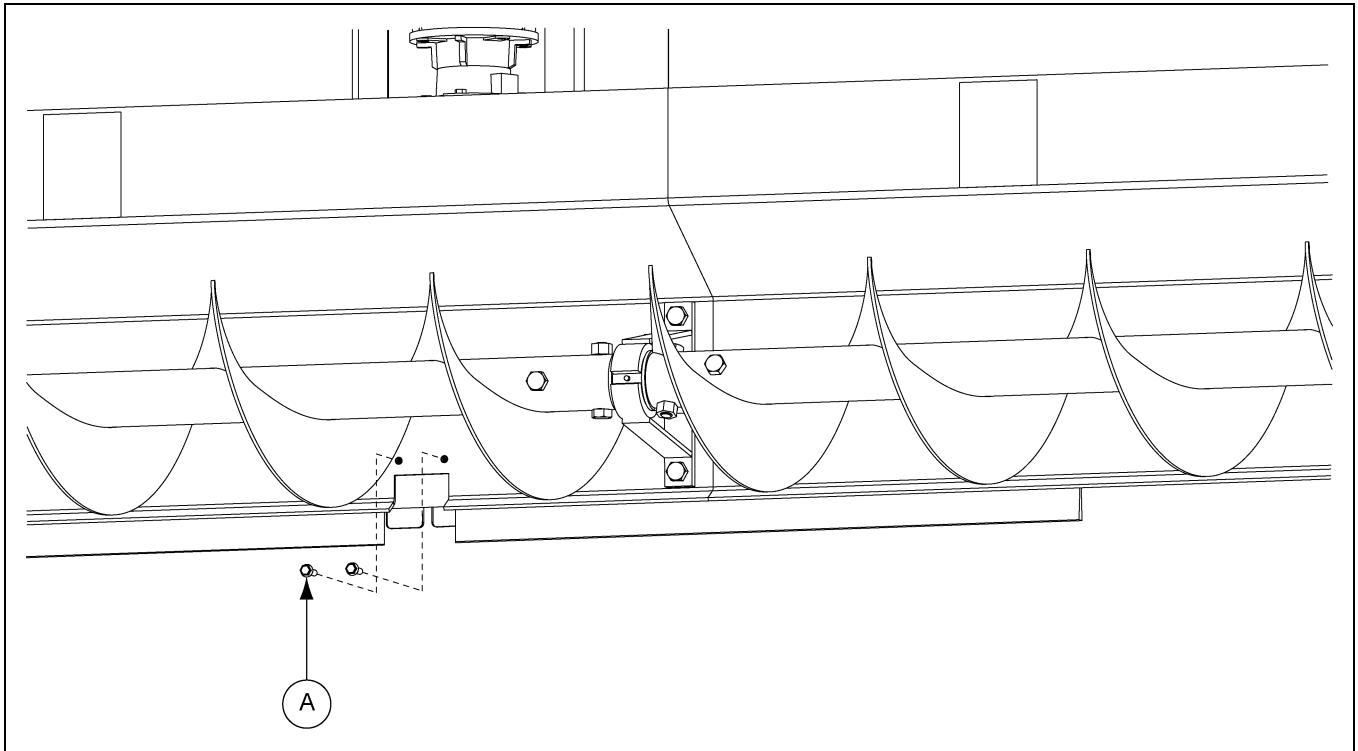

Figure 70
1. Install flange bolts (A) through the front of the sweep shield. *(See Figure 70.)*